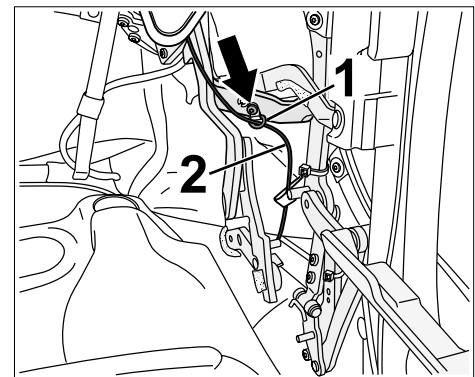

Figure 2
- 2.2 Unscrew fastening screw $\Rightarrow$ Figure 2
-Arrow- on the guide eyelet $\Rightarrow$ Figure 2 **-Pos. 1-** of the tension rope for the convertible top rooflining $\Rightarrow$ Figure 2 **-Pos. 2-** at the convertible-top linkage.